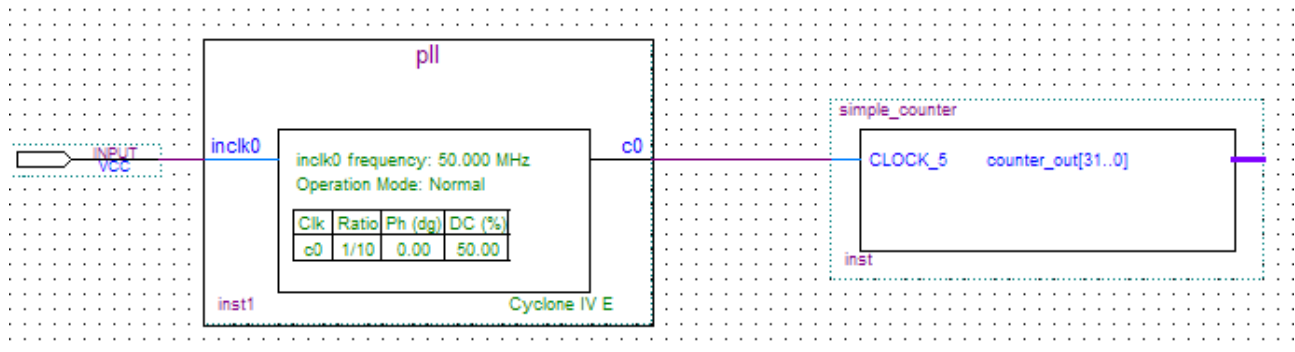

Figure 6-29 Connecting the PLL symbol and Input port
5. Use the mouse to click and drag the new input pin to the left; notice that the ports remain connected as shown in **Figure 6-29**.